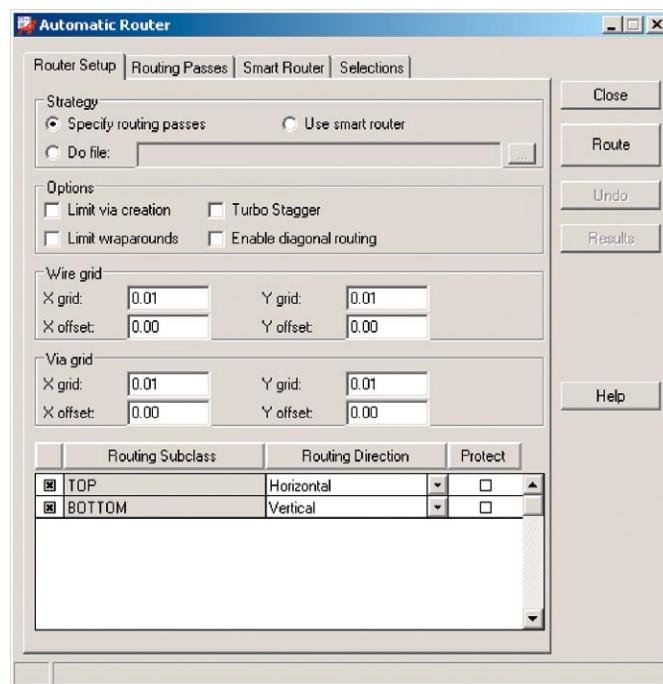

FIGURE 9-77
Once the fan-outs and manual routing tasks are completed, you can quickly route the rest of the board using the autorouter. To start the autorouter, select Route → Route Automatic... from the menu bar. As shown in Figure 9-77 (Route Setup tab, Strategy options area), there are three ways to use the autorouter: (1) specify routing passes, (2) use the smart route, and (3) set up a SPECCTRA (Allegro) DO file. You use the Route Setup tab on the Automatic Router dialog box to select which method to use. Methods 1 and 2 are both easy to use, method